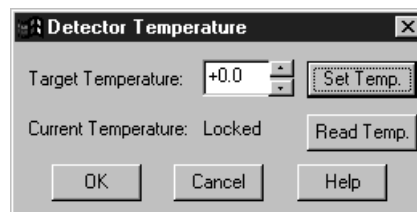

Figure 31. Temperature dialog box
1. Open the WinSpec/32 Setup menu and click on **Detector Temperature**. This will cause the Temperature dialog box to appear as shown in Figure 31.